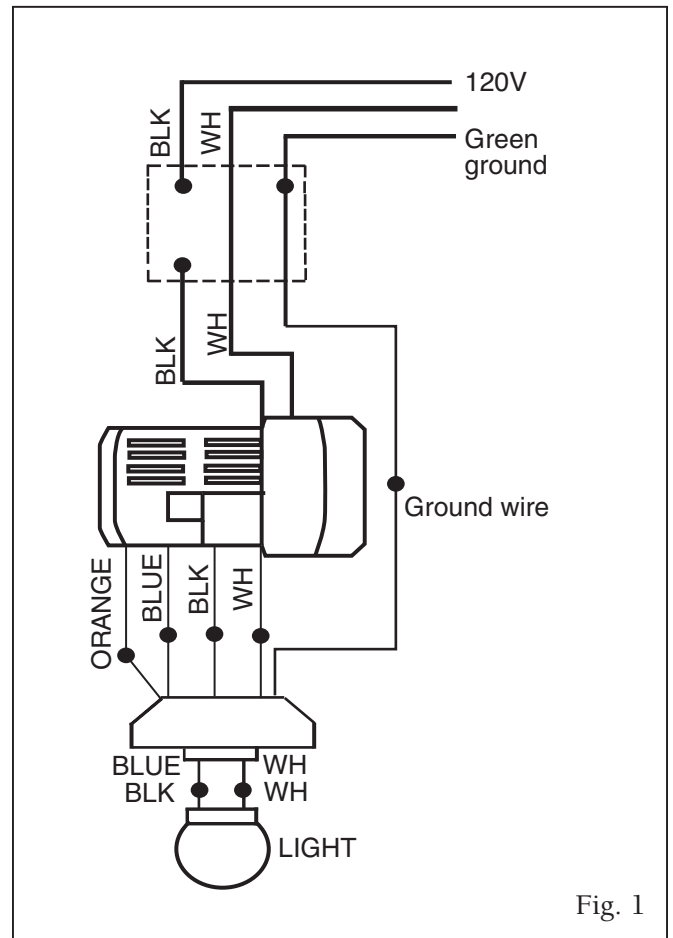

Fig. 1
1. Place washer on screw. Insert this assembly through the blade and start the screw into the blade arm. Repeat this procedure without tightening the screw until all 3 screws have been started into the blade arm (Fig. 1).